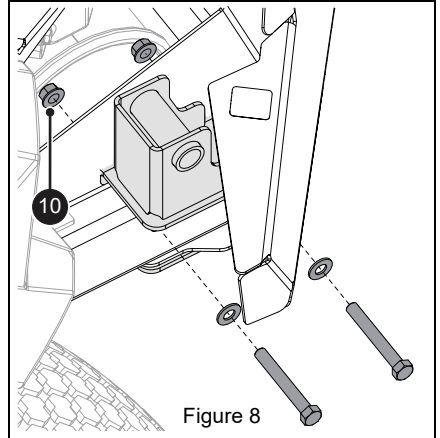

Figure 8
- Secure bagger mounts to frame rail and heat shield with four retained hex bolts, four retained flat steel washers, and four center locking flange nuts (item 10). Do not fully tighten. See Figure 8.